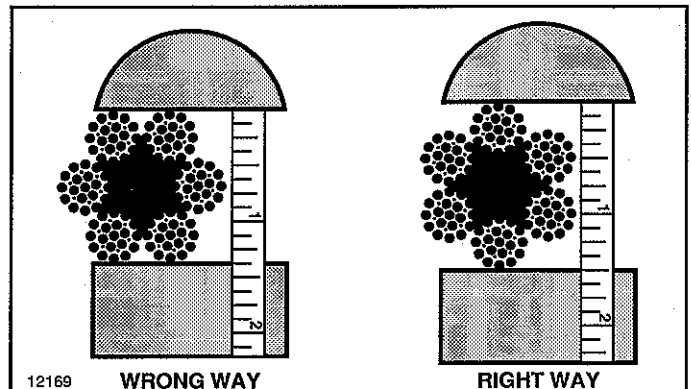

Figure 8-2. Correct Method of Measuring Rope.
(1) Reduction of rope diameter due to loss of core support, internal or external corrosion or wear of outside wires from nominal diameter of more than 3/64 inch (1.19 mm) for diameter to and including 3/4 inch (19.05 mm). Correct method of measuring hoisting rope is shown in Figure 8-2.